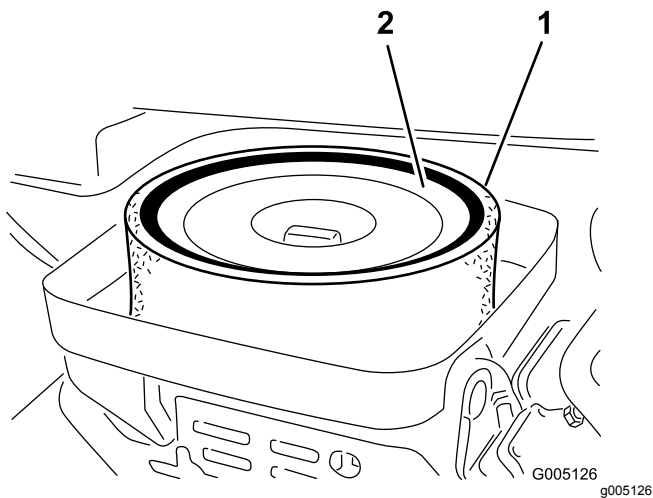

Figure 27
3. Remove the wing nut securing the elements to the air-cleaner body (Figure 27).
4. If the foam element is dirty, remove it from the paper element (Figure 27). Clean it thoroughly, as follows: